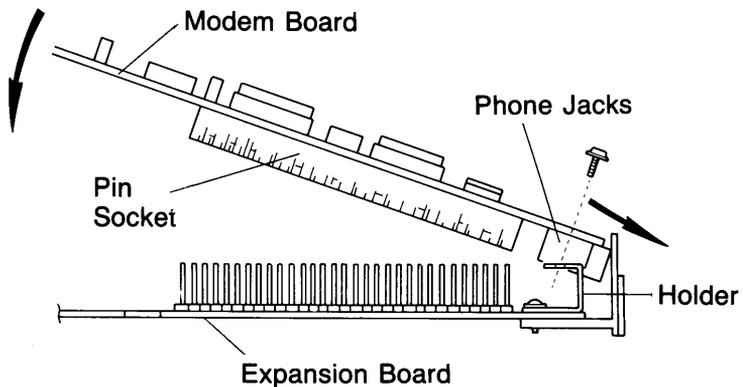

Figure 4. Modem Board Installation
6. Hold the Modem Board at a slight angle to the expansion board so that its phone jacks fit into the cutout as shown in Figure 4.